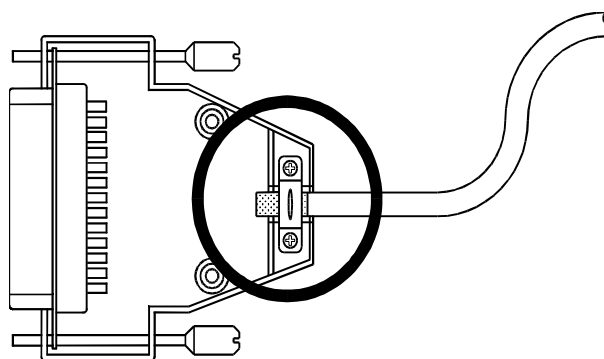

Fig. 1: Shielding in conformity with the EMC standards
- When **using connectors**, metallised connectors are to be used only, e.g. SUB-D connectors with metallised housing according to Abb. 1. Make sure that the strain relief is directly connected with the housing here as well.